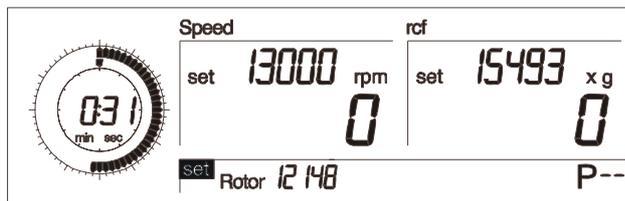

Fig. 5.15: Preselection of a rotor
- Turn the left rotary knob until “set” appears in front of the option “Rotor” on the display (Fig. 5.15).